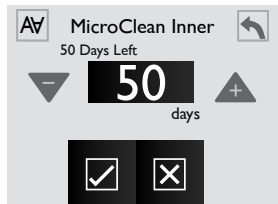

Figure 12.6i
1. From the “Water Care” Menu you can to set the MicroClean Inner timer, Figure 12.6i.